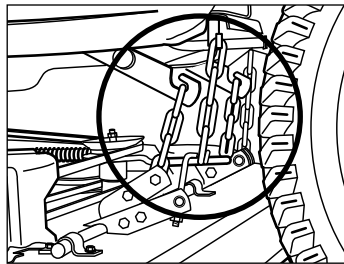

**Figure 13. Mower Hitch**
5. Turn the wheels straight ahead. Pull back on spring-loaded lever (B, Figure 13) and lift mower hitch off of the tractor brackets (A).
2. Place mower in the lowest cutting position using the mower height adjuster. Slide the mower deck under the right side of tractor so that the mower hitch is aligned with front tractor hitch (A, Figure 13).
3. See Figure 13. Turn wheels straight. Pull back on the spring-loaded lever (B) while lifting up on the mower hitch. Install the mower hitch onto tractor hitch brackets (A). When properly installed, the spring-loaded lever should seat fully underneath the brackets (A).